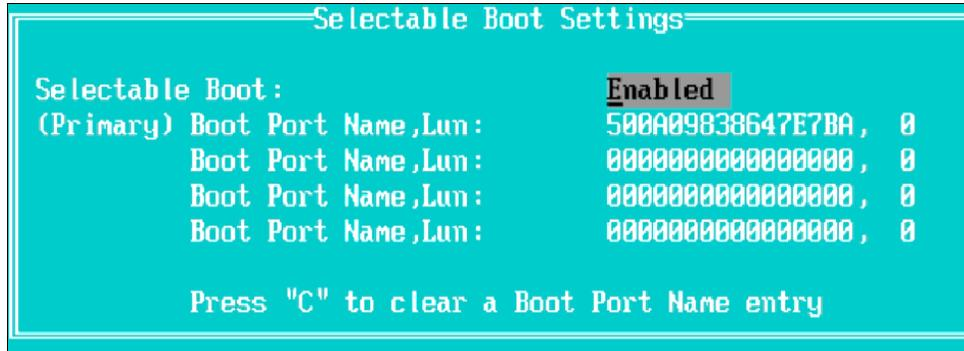

Figure 18-28 Enabling selectable boot in Selectable Boot Settings panel
- Scroll to Selectable Boot, as shown in Figure 18-28.